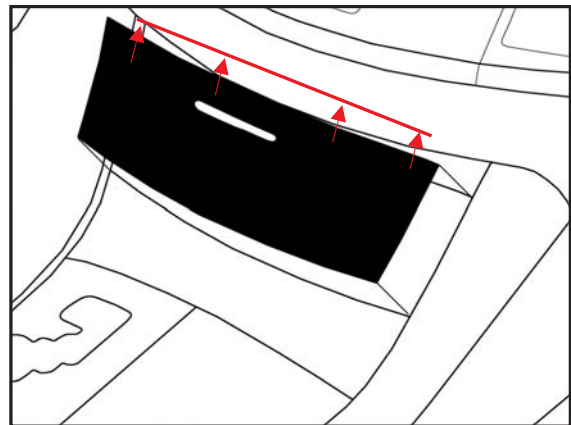

Fig. H1
- ⚠ A. Align part uniformly to top edge of factory navigation door allowing 1.0 ±2.0mm gap on the bottom edge to allow free door function in opening and closing. (Fig. H1).